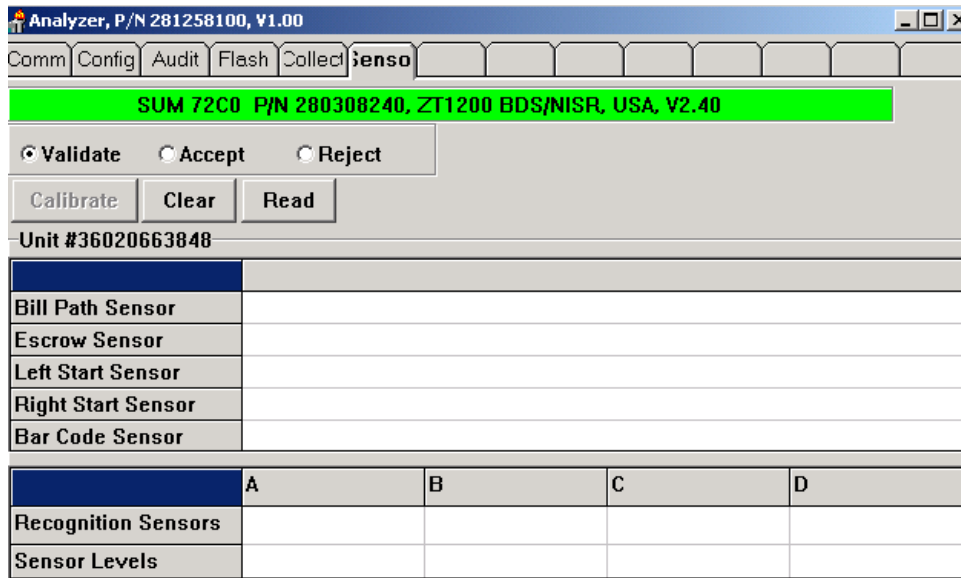

fig.1
- 1) Click on the “sensor” tab. Your screen should look like fig.1.